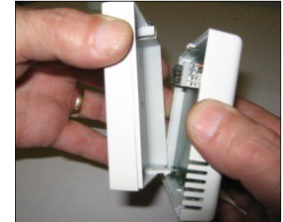

Fig 12
**Step 1** Using a screwdriver undo the screw on the top of the remote control case and pull the back case away (see Fig 12).